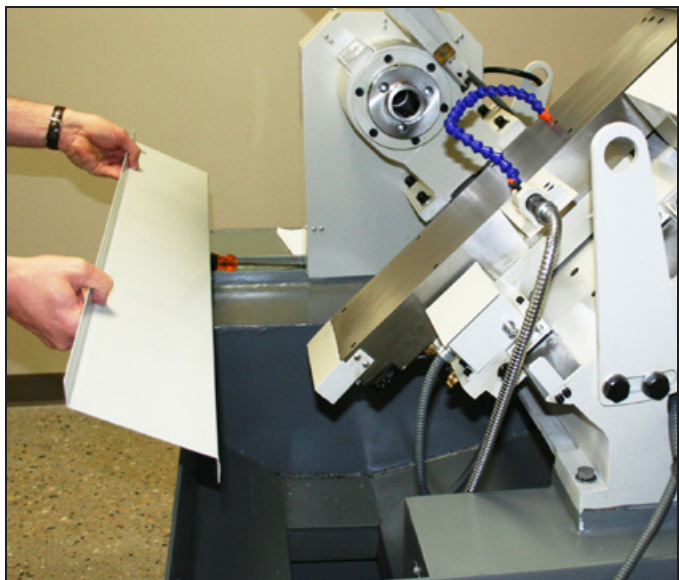
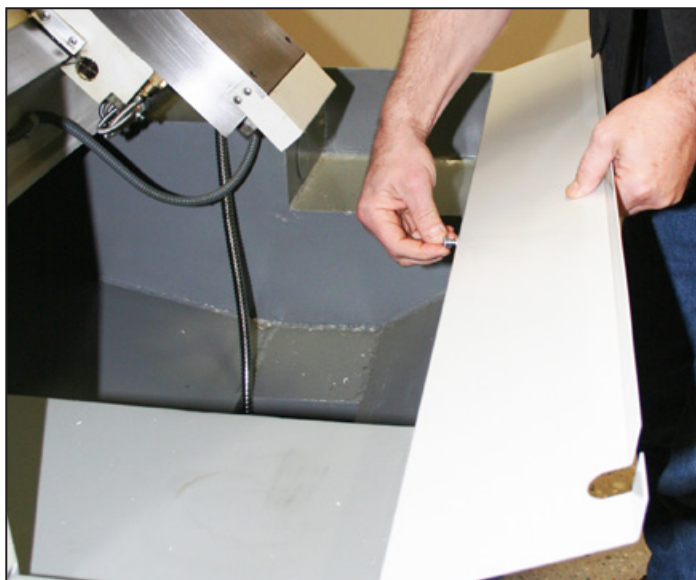

Figure 9
Figure 10
1. Attach the Front Splash guard to lathe's front pedestal using three 6 mm long Socket Head Cap Screws (see **Figure 9** and **Figure 10**).